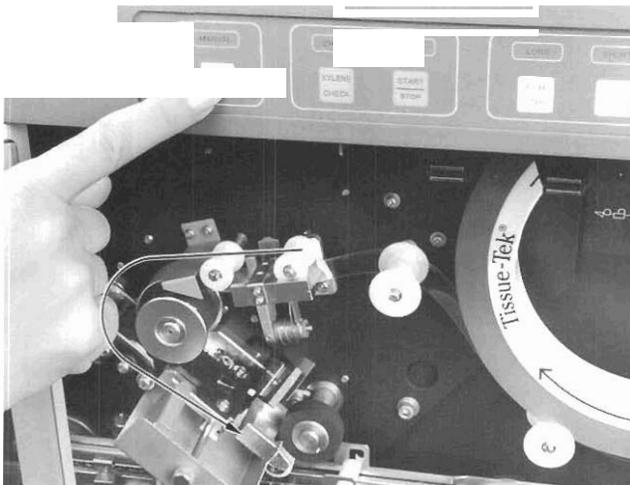

Figure 4-3
- c. Press and hold the FILM keypad. The end of the film should be captured and begin to feed automatically. If this does not occur, carefully feed the film with the other hand while continuing to hold the FILM keypad. The film will then continue to thread through the roller and film press system (Figure 4-3). Release the keypad when the film is just past the blade (3 to 6 mm [ $\frac{1}{8}$  to  $\frac{1}{4}$  inch]).